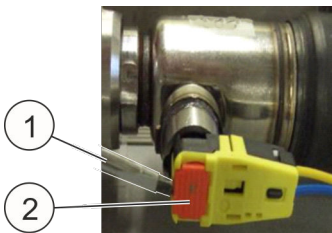

Fig. 87: Ignition plug
- 11.** ▶ Push out the red arrest (Fig. 87 /2) at the ignition plug with a small screwdriver (Fig. 87 /1).